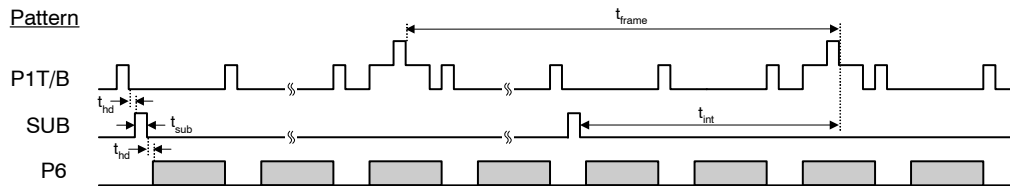

Figure 25. Frame/Electronic Shutter Timing
2. Refer to Figure 25: VCCD Clock Edge Alignment